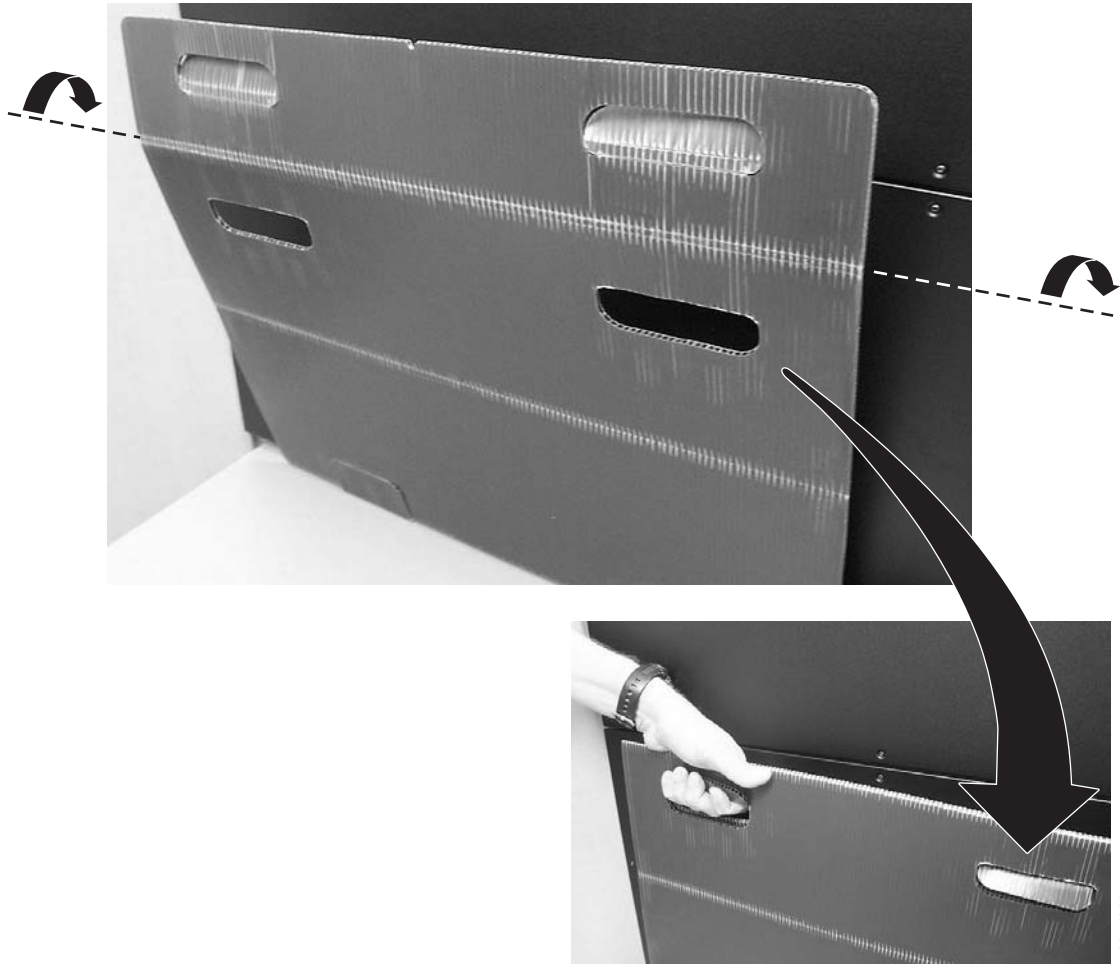

Figure 4-24. Lifting sling
3. With a person on each side of the module, lift the module with the sling provided. See Figure 4-24 on page 4-21 to see how the lifting sling handles must be folded.